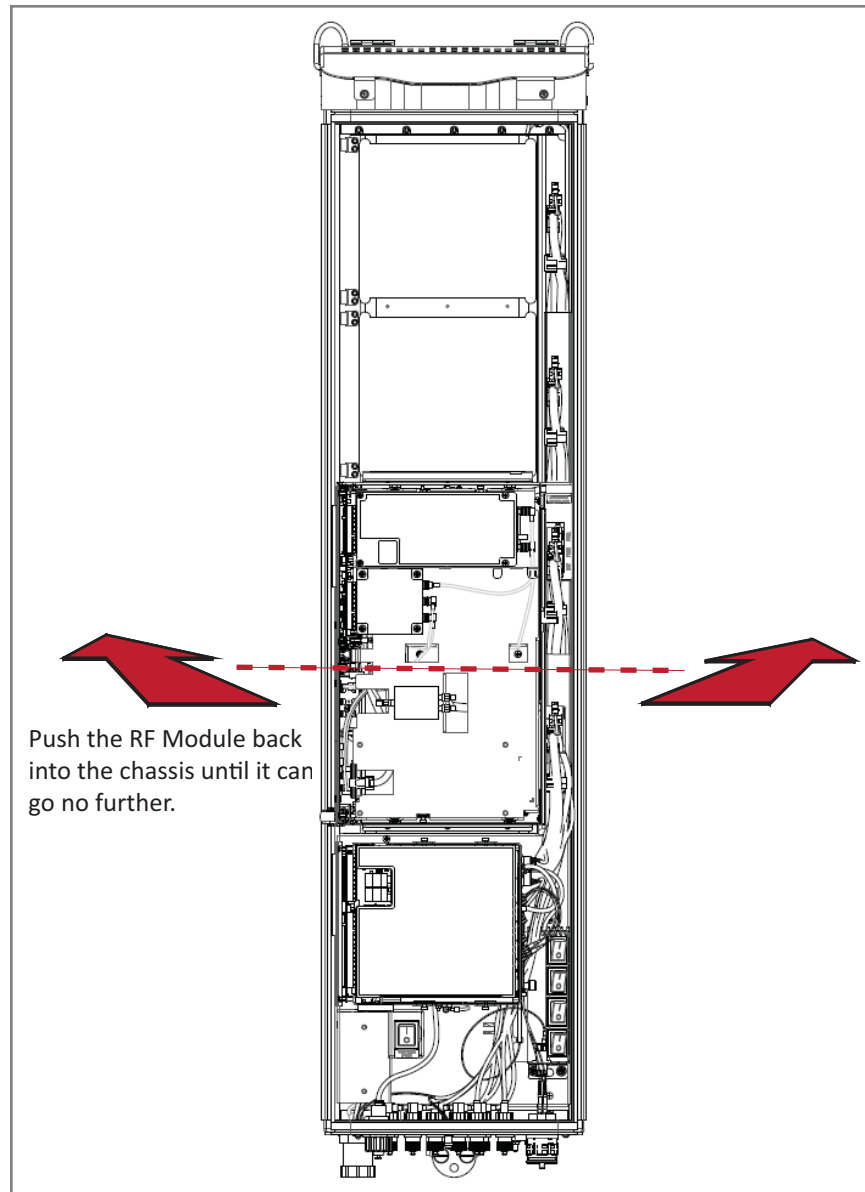

Figure 27. Seating a Dual-Bay RF Module
- For Dual-Bay RF Modules, see Figure 27 on page 98, which uses the Legacy Dual-Bay 40W RF Module as an example.